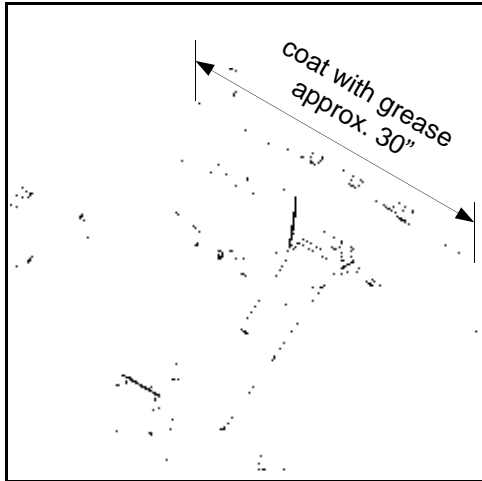

FIG 5.19
1. Make sure the nylon material on the tread adjustment brackets on both the front and rear legs have an adequately lubricated surface to slide on during adjustment (fig. 5.19).